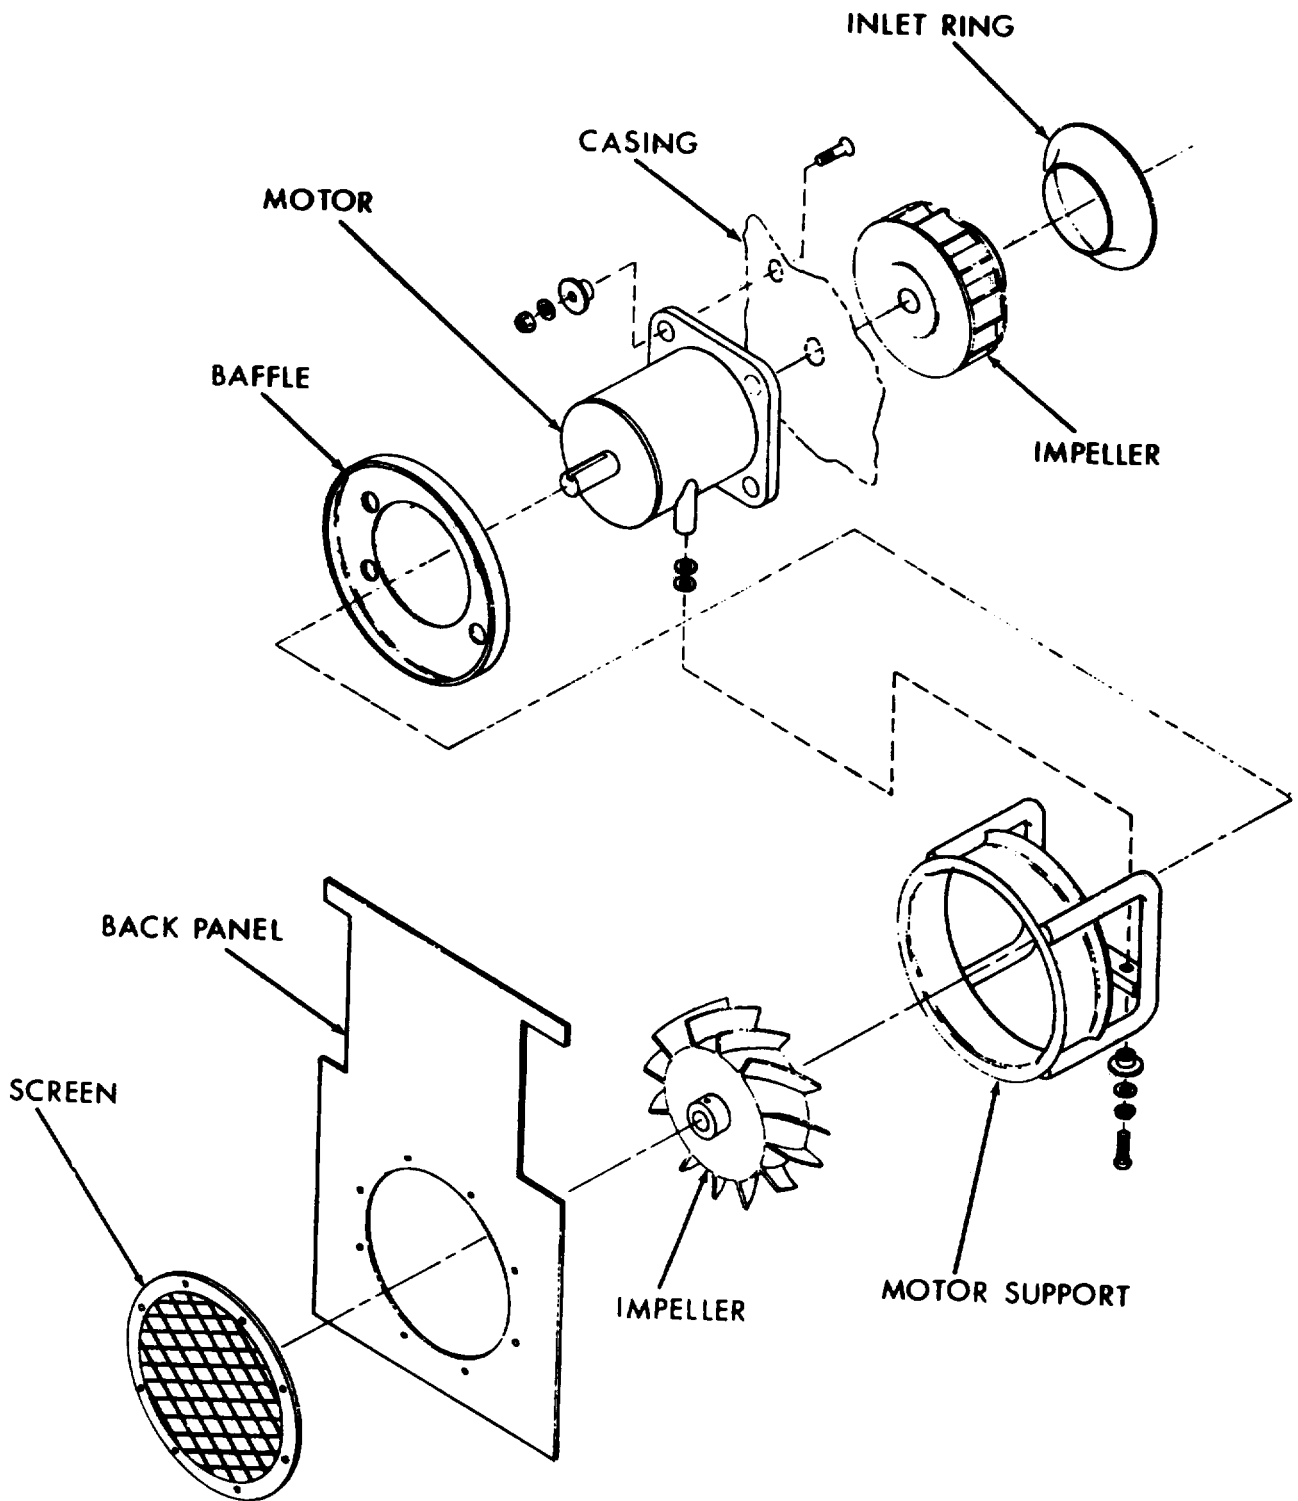

Figure 4-6. Back Panel and Motor Support.
4.15. Back Panel and Motor Support (See figure 4-6).